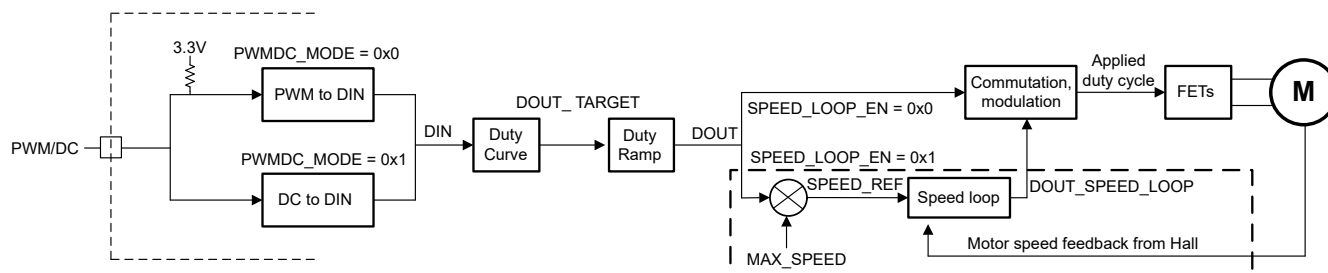
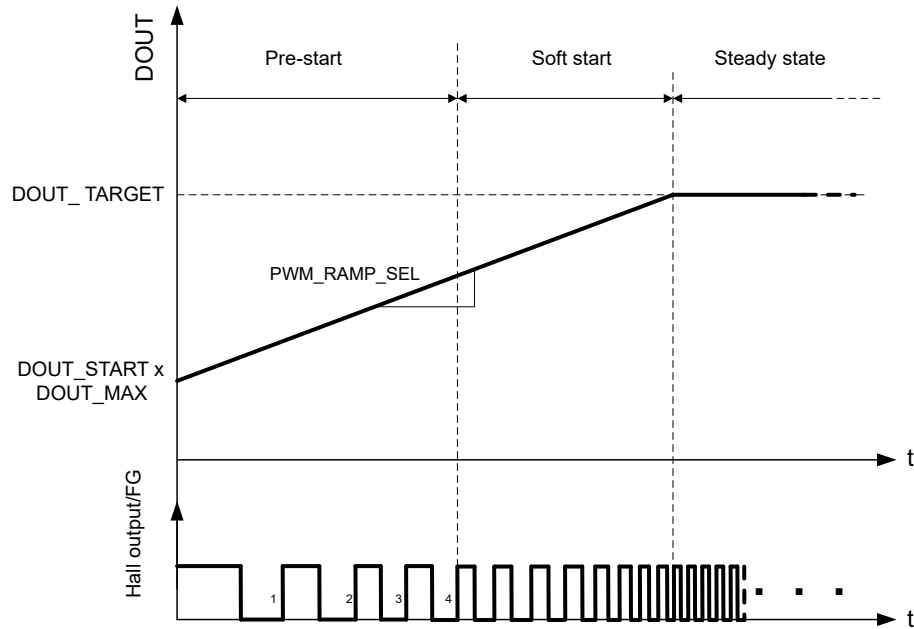
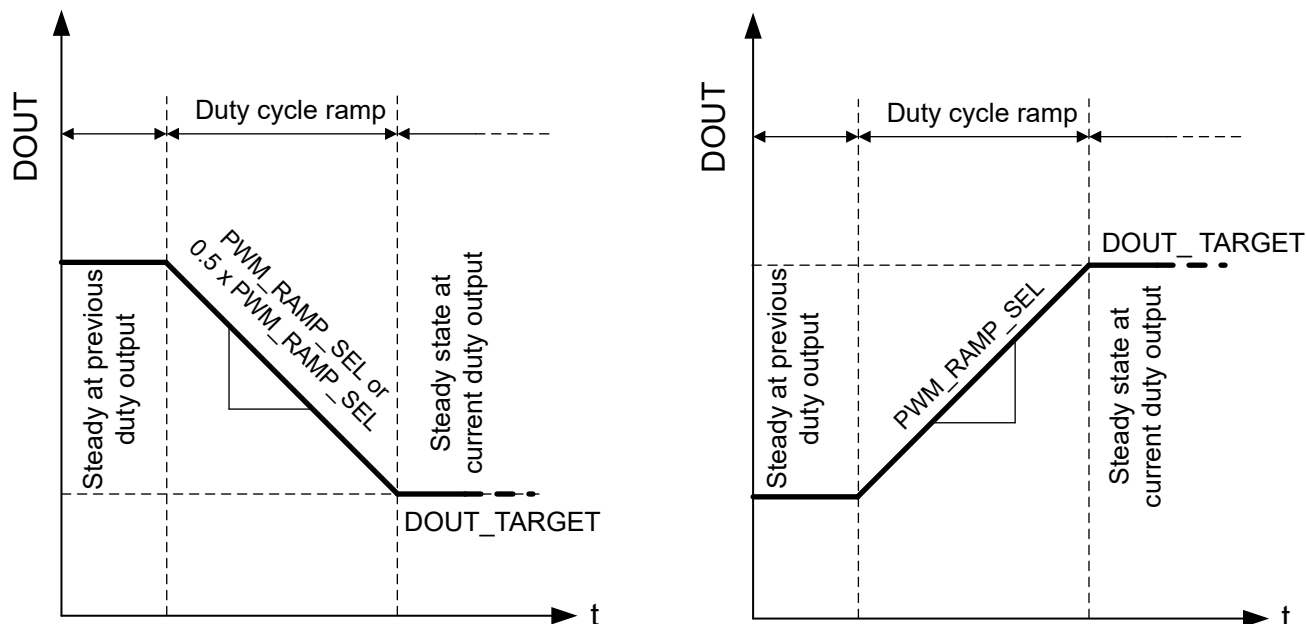

Figure 6-2. MC121-Q1 Motor Control Block Diagram
Figure 6-6. Output duty cycle during motor start
Figure 6-7. Duty Cycle Ramp
MC121-Q1 accepts a pulse-width modulated (PWM) or a DC (analog) input on the PWM/DC pin to control the motor speed. The MC121-Q1 provides a configurable duty curve to map the input duty (DIN in Figure 6-2) to a user configured target output duty cycle (DOUT_TARGET in Figure 6-2). The MC121-Q1 also provides a user configurable duty ramp to smoothly increase/decrease the output duty cycle (DOUT in Figure 6-2) to reach DOUT_TARGET. The MC121-Q1 supports both open-loop (duty cycle) and closed-loop (speed) control. In open-loop (duty cycle) control, the applied duty cycle is directly set by DOUT while in closed-loop (speed) control, the applied duty cycle is set by the speed loop. An integrated digital-latch Hall sensor provides rotor position and timing information to the commutation algorithm. The MC121-Q1 supports square and output PWM waveshaping schemes to optimize between efficiency/motor speed and acoustic noise. The MC121-Q1 provides synchronous, asynchronous, and hybrid output PWM modulation modes on the H-bridge. Configurable hall lead/lag angle and time adjustment is available to improve the efficiency across both lower and higher speeds. In addition, MC121-Q1 provides a configurable demagnetization (auto or manual) feature to reduce the motor winding current to zero before a commutation to minimize the DC bus (VM) voltage spike, acoustic noise and improve efficiency.
Figure 6-2 shows the motor control block diagram of MC121-Q1.
The MC121-Q1 implements a user configured two-slope ramp to reach the target output duty cycle (DOUT_TARGET in Figure 6-2) during motor start-up as shown in Figure 6-6. The two slope ramp (pre-start followed by soft start) enables a reliable start-up and reduces motor noise.
The MC121-Q1 enters the pre-start phase when the device exits standby mode, sleep mode, or fault mode. During the pre-start phase, the MC121-Q1 always uses square commutation to drive the motor. When PWM_RAMP_EN is set to 0x1, the output duty cycle (DOUT in Figure 6-2) increases linearly from starting duty cycle (DOUT_START x DOUT_MAX when speed loop is disabled and DOUT_START when speed loop is enabled) at the rate set by PWM_RAMP_SEL. When PWM_RAMP_EN is set to 0x0, then DOUT is updated directly by the DOUT_TARGET. The pre-start phase continues till four electrical cycles (eight Hall edges) are observed. When the fourth electrical cycle is completed, the device enters the soft start phase to ramp up DOUT to DOUT_TARGET; if DOUT has reached DOUT_TARGET by the end of pre-start phase, the soft start phase is skipped and device enters steady state directly. If the MC121-Q1 does not detect a Hall signal transition within t_{LRD} , the device enters the locked rotor protection fault state. During start-up sequence, locked rotor detection time (t_{LRD_START}) is user configured by LRD_TIME_STARTUP. During steady state, locked rotor detection time (t_{LRD_RUN}) is fixed at 320ms. Hall offset (angle and time) is disabled during the pre-start phase.
During motor operation, when DIN changes, the MC121-Q1 ramps the output duty cycle (DOUT in Figure 6-2) from previous target duty cycle (DOUT_TARGET_PREV) to the new target duty cycle (DOUT_TARGET) using user configured ramp rate. During acceleration (DOUT_TARGET > DOUT_TARGET_PREV), the ramp rate is set by PWM_RAMP_SEL and during deceleration (DOUT_TARGET < DOUT_TARGET_PREV), the ramp rate is either PWM_RAMP_SEL (when PWM_DECEL_SEL = 0x0) or 0.5 x PWM_RAMP_SEL (when PWM_DECEL_SEL = 0x1). PWM_DECEL_SEL = 0x1 provides a slower ramp during deceleration to avoid DC bus spikes due to regenerative energy push-back from motor. Figure 6-7 shows examples of DOUT increasing and decreasing according to PWM_RAMP_SEL.